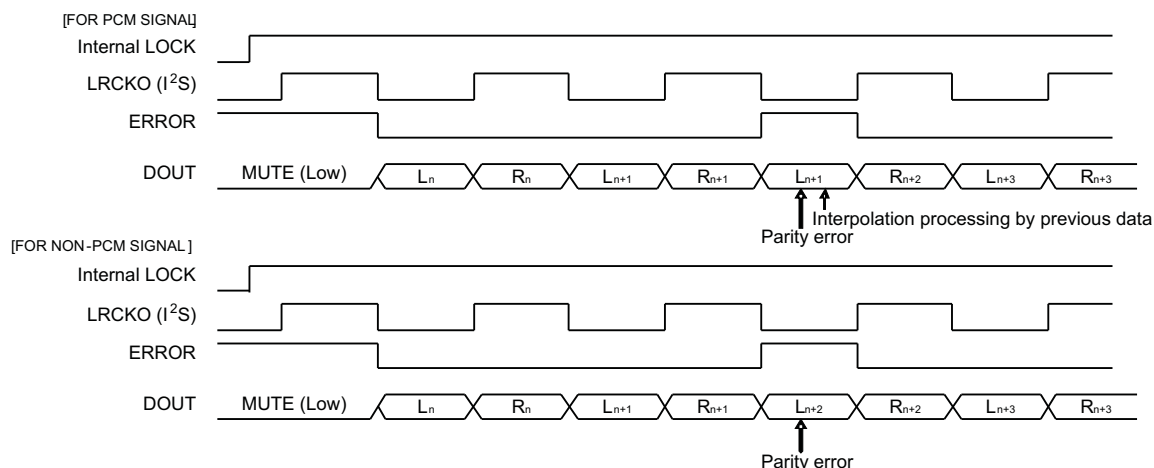

Figure 26. Processing for Parity Error Occurrence
- For PCM data, when an error is detected (for example, a parity error), then the data from the previous sample are repeated. This sequence is shown in Figure 26, where sample L_{n+1} is repeated because the incoming data (L_{n+2}) had an error.
Figure 26 shows the processing for parity error occurrence.